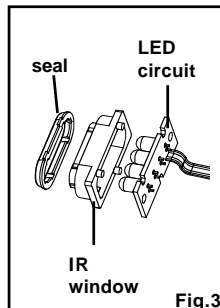

Fig.3
- 4- Insert the IR window on the LED circuit, observing the mounting direction given by the pins (see fig.3).
- 5- Place the seal on the IR window with the flat part against the lens (see fig.3).